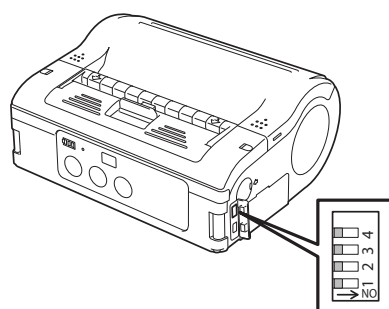

Figure 4-4, Printer with DIP Switch Cover Open
2. You can pry open the USB/DIP switch cover so that the DIP switches are accessible to you. Use a small screwdriver to pry outward the small black vinyl cover labeled DSW on corner of unit as it is shown in Figure 4-4.
3. Look straight downward into the DIP switch compartment or panel in order to see the white DIP switches. Next to switch number 1 is a directional arrow showing the On setting direction. Off is in the opposite direction. Figure 4-4 also shows the On arrow.